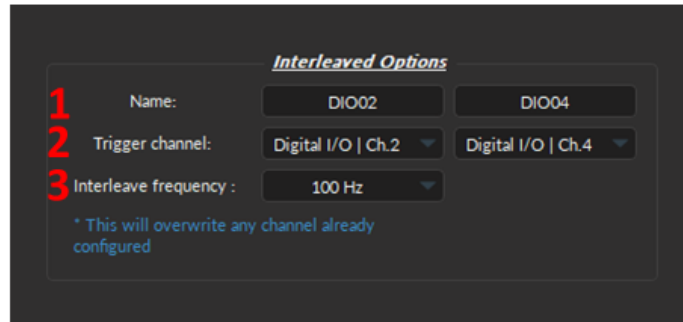

Figure 5.31: Channel(s) Configuration, Analog Input Interleaved
To use the **interleaved mode**, specify the parameters in the **Interleaved Options** section of the *Channel Configuration* window (Fig. 5.31):
1. The **Name** (Fig. 5.31, 1) lets users customize the label of the channel to increase the clarity of the acquisition system.
2. The **Trigger channel** (Fig. 5.31, 2) drop-down list allows the choice of interleaved outputs (can be either digital or analog). However, once the first channel is selected, the user will only be allowed to select the same type of output (analog or digital) for the second channel.
3. The **Interleave frequency** (Fig. 5.31, 3) drop-down list allows the choice of a pre-configured frequency (either 10, 20, 50 or 100Hz) for the interleaved channels. The two selected trigger channels will be configured to function at the chosen frequency.